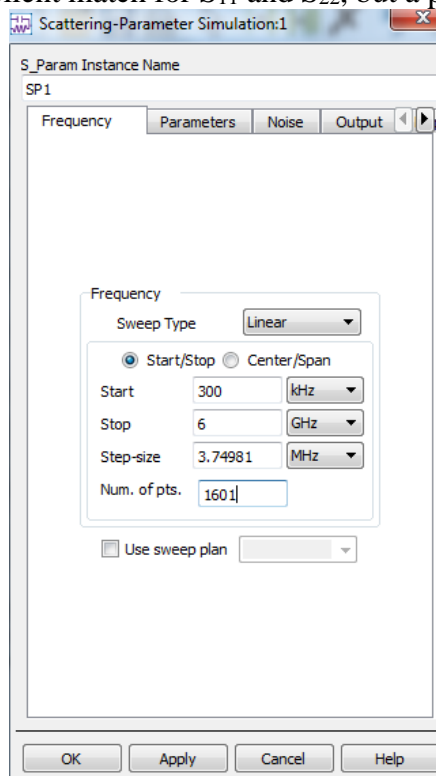

Figure 5: Setting the S-parameter simulation block parameters.
- 5) Double click on the “S-Parameters” Block and set the parameters as shown in Figure 5.